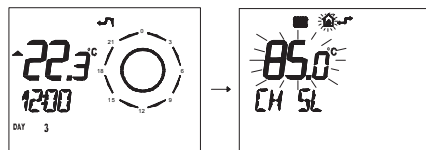

Fig. 7.36
- Press button  for more than 3 seconds to enter in **INFO** mode (Fig. 7.36).